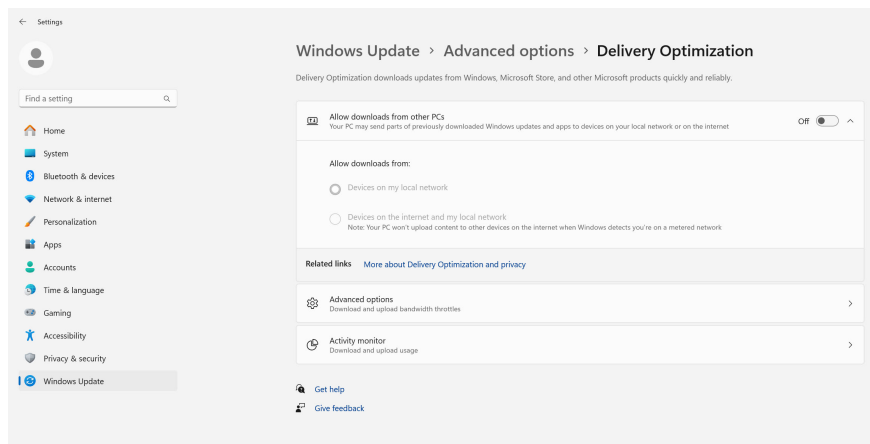

Figure 44: Win 11 Delivery Optimization
3. Next, Click on Delivery Optimization and choose “Allow Downloads from other PCs” - **OFF**. (Fig 44)